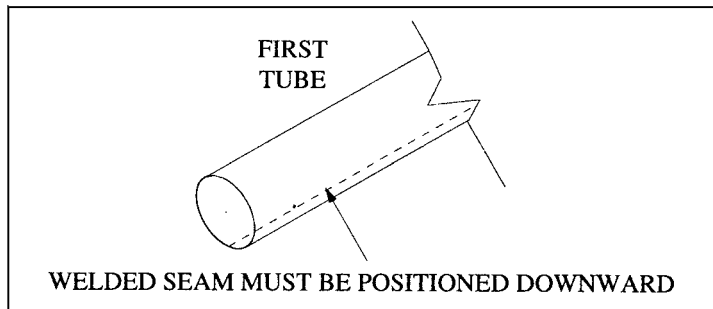
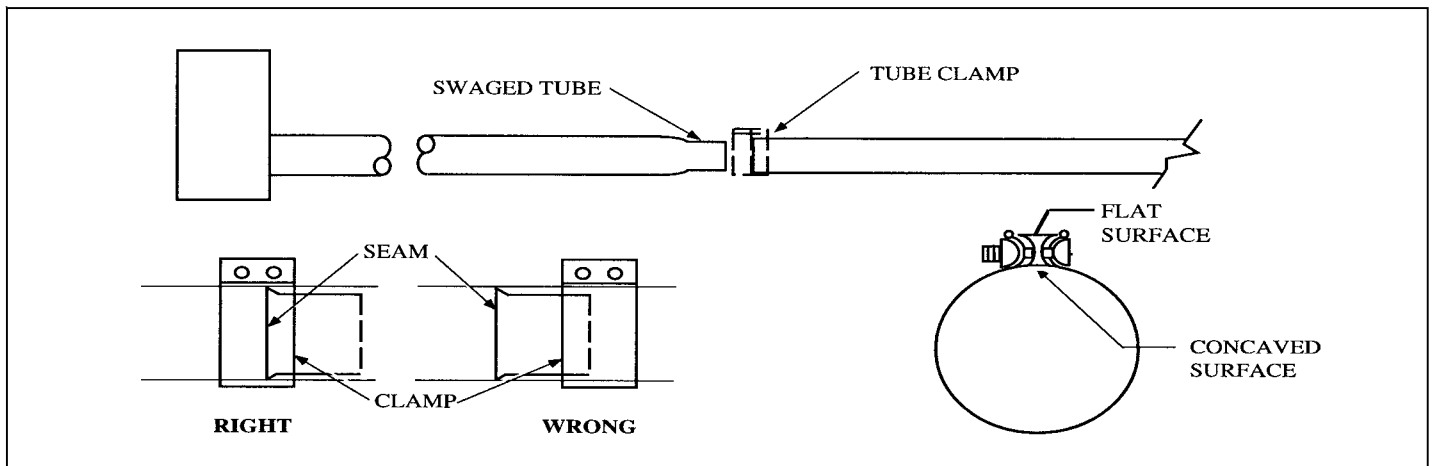

Figure 2-7
Figure 2-8
3. Mount heaters on approximately 8-ft centers. Slide tubes through hangers with weld seam downward (see Figure 2-7) and fasten with tube clamps (see Figure 2-8). Center clamps on seams.
**NOTE:** The tube clamps provided with the heater are pre-assembled at the factory. If a clamp is dismantled, it is important that upon reassembly the spacer is properly inserted (see Figure 2-8). The spacer's concave surface **must** face the radiant tube. Incorrect spacer placement will result in shearing of the bolt when torqued to the recommended specifications (40 - 60 lb-ft).